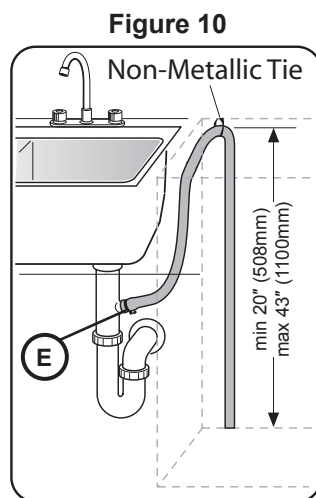

Figure 10
- 1 Directly under the sink dishwasher drain connection, as shown in Figure 10.